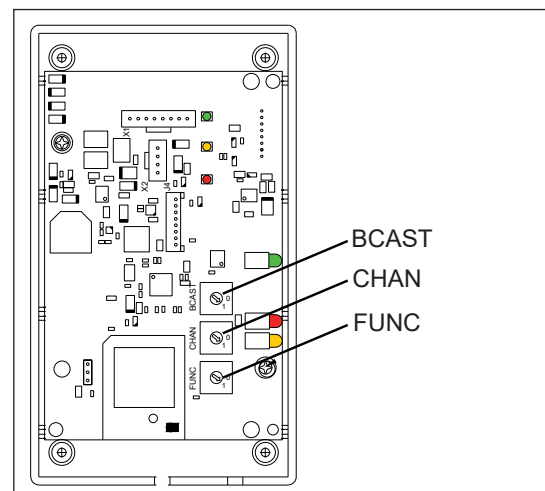

Figure 14: Radio Receiver Switches
3. Use a small flathead screwdriver to set the **CHAN** and **BCAST** switches to a new channel and broadcast group (1-8) as needed. Leave **FUNC** set to "1". Refer to **Figure 14**.
3. Use a small flathead screwdriver to set the **CHAN** and **BCAST** switches to a new channel and broadcast group (1-8) as needed. The **FUNC** switch will typically be set to "2" for most scoring displays. Refer to **Figure 14**.